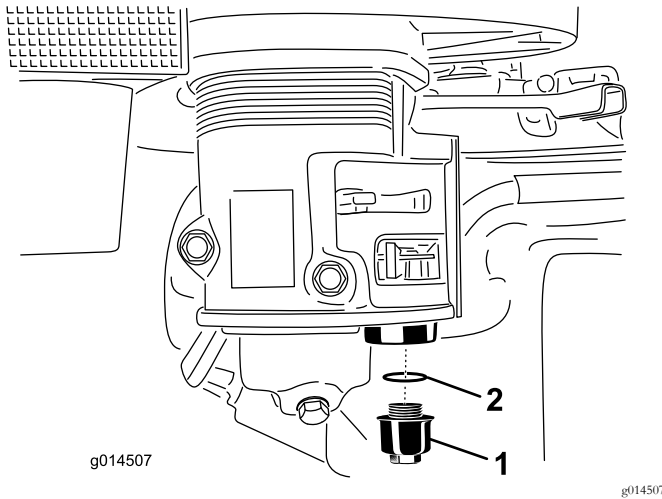

Figure 23
4. Unscrew the sediment cup (Figure 23).